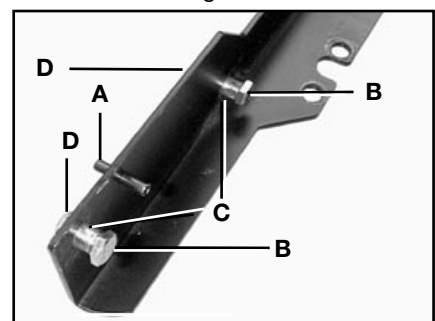

Fig. 5
4. Install and center the four (4) roll pins (A) Fig. 5 in each support bracket. Install eight 3/4" hex head screws (B) Fig. 5 with bushings (C) and flange nuts (D) on the inside.